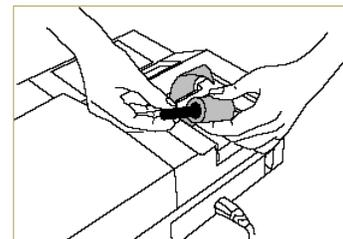

Figure B-10: Feed paper through and insert roll holder
6. Feed the paper until the tip appears at the paper exit (Figure B-10). Grip the paper tip and pull gently until the full width of the paper is through the exit slot.
7. Insert a roll holder in the paper roll. Then, drop the roll holder into the slot (Figure B-10).